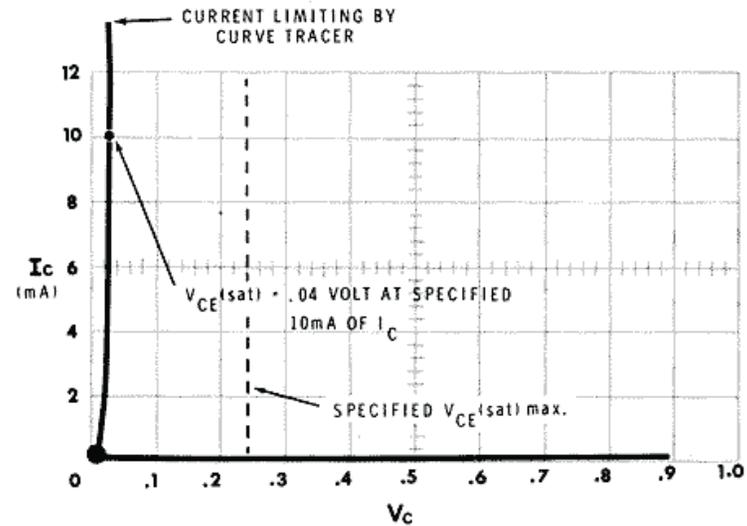

Figure 3-2
2. If a transistor is open, only the base line will appear on the display. If the transistor is shorted, there will be a vertical line as in Figure 3-2 but there will be no base line.
Transistor data sheets specify $V_{CE(sat)}$ as a maximum voltage at a given base current and collector current. In Figure 3-2 this value is .04 volt.
$$\text{Figure 3-2, } r_{CE(sat)} = \frac{.04 \text{ V}}{10 \text{ mA}} = \frac{40 \text{ mV}}{10 \text{ mA}} = 4 \Omega.$$